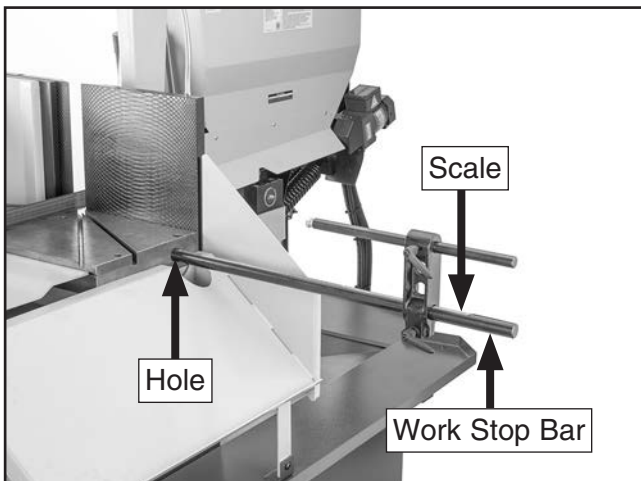

Figure 13. Work stop installed.
9. Screw long work stop bar into hole in fixed outfeed table with scale on bar facing upward, as shown in **Figure 13**.